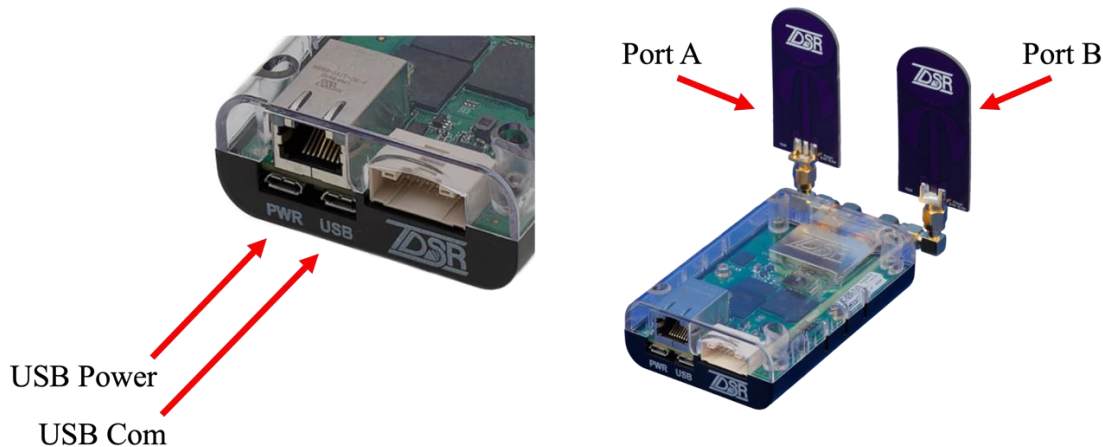

Fig. 5: P452 with both antennas connected and USB Power and COM ports identified
2. Attach the Broadspec antennas to both SMA port “A” and port “B” (the port A connector in line with the Ethernet connector; see **Figure 5**). The Broadspec antenna is omni-directional.